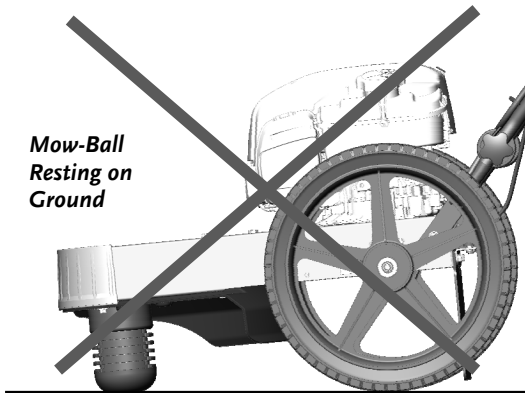

Figure 9: Not Level
**Note:** Do not let the Mow-Ball rest on the ground because the Frame and Engine will be at too great an angle for a proper Oil level reading (Figure 9).